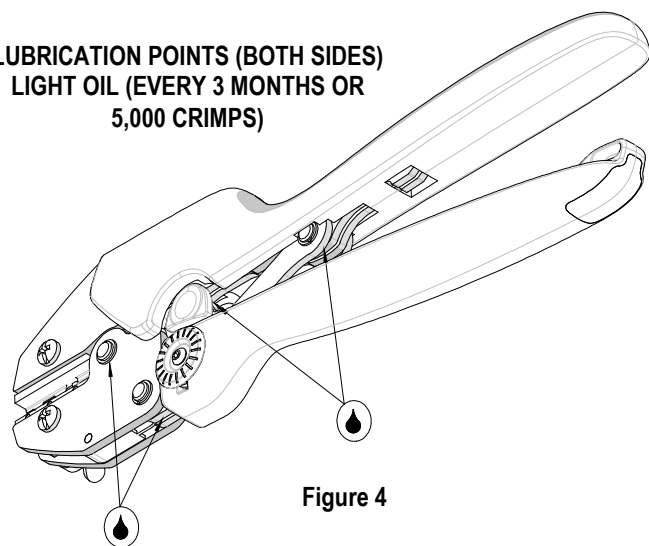

Figure 4
3. Make certain all pins; pivot points and bearing surfaces are protected with a thin coat of high quality machine oil. Do not oil excessively. This tool was engineered for durability, but like any fine piece of equipment it needs cleaning and lubrication for a maximum service life of trouble-free crimping. A light oil, such as 30 weight automotive oil used at the oil points shown in Figure 4, every 5,000 crimps or 3 months will significantly enhance the tool life and ensure a stable calibration.